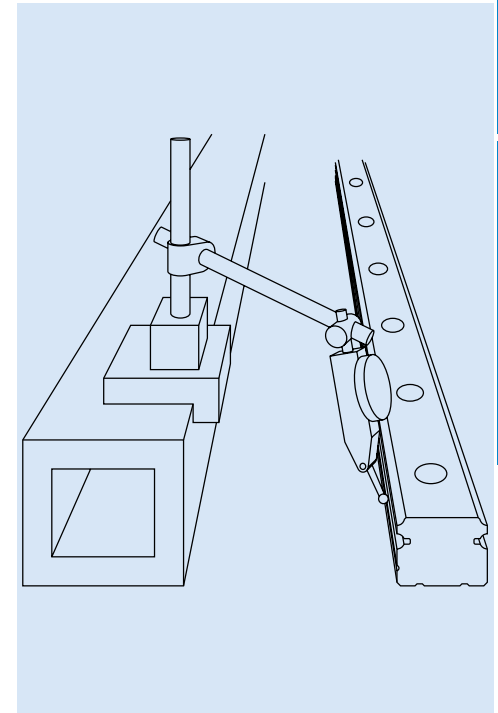

Fig. 10.16
- [3] Once the position of the straight edge is determined, use it as the reference. With a dial indicator, check parallelism with the rail, and adjust the rail if necessary. Then tighten the bolts. Ensure that the straight edge does not move while the bolts are being tightened. This procedure should be carried out starting from one end of the rail to the other end (**Fig. 10.16**).